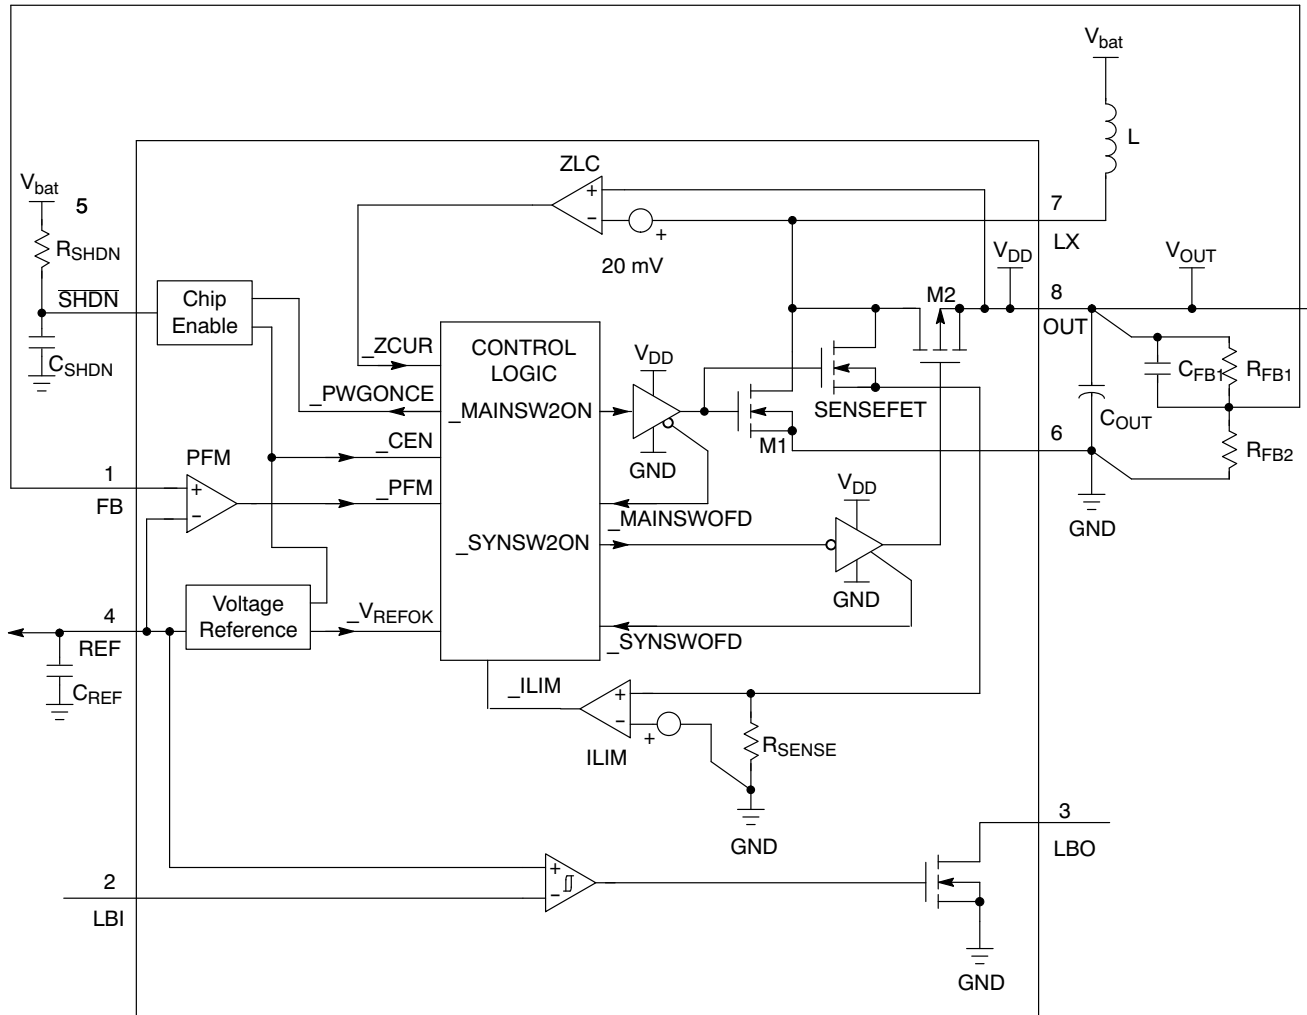

Figure 2. Simplified Functional Diagram
From the simplified Functional Diagram (Figure 2), the output voltage is divided down and fed back to pin 1 (FB). This voltage goes to the non-inverting input of the PFM comparator whereas the comparator's inverting input is connected to REF. A switching cycle is initiated by the falling edge of the comparator, at the moment, the main switch (M1) is turned ON. After the maximum ON-time (typical 1.4 μs) elapses or the current limit is reached, M1 is turned OFF, and the synchronous switch (M2) is turned ON. The M1 OFF time is not less than the minimum OFF-time (typical 0.31 μs), this is to ensure energy transfer from the inductor to the output capacitor. If the regulator is operating at continuous conduction mode (CCM), M2 is turned OFF just before M1 is supposed to be ON again. If the regulator is operating at discontinuous conduction mode (DCM), which means the coil current will decrease to zero before the next cycle, M1 is turned OFF as the coil current is almost reaching zero. The comparator (ZLC) with fixed offset is dedicated to sense the voltage drop across M2 as it is conducting, when the voltage drop is below the offset, the ZLC comparator output goes HIGH, and M2 is turned OFF. Negative feedback of closed loop operation regulates voltage at pin 1 (FB) equal to the internal voltage reference (1.190 V).
From Figure 2, SENSEFET is applied to sample the coil current as M1 is ON. With that sample current flowing through a sense resistor, sense-voltage is developed. Threshold detector (ILIM) detects whether the sense-voltage is higher than preset level. If it happens, detector output signifies the CONTROL LOGIC to switch OFF M1, and M1 can only be switched ON as next cycle starts after the minimum OFF-time (typical 0.31 μs). With properly sizing of SENSEFET and sense resistor, the peak coil current limit is set at 1.0 A typically.
The IC is shutdown when the voltage at pin 5 ($\overline{\text{SHDN}}$) is pulled lower than 0.3 V. During shutdown, M1 and M2 are both switched OFF, however, the body diode of M2 allows current flow from battery to the output, the IC internal circuit will consume less than 0.05 μA current typically. If the pin 5 voltage is pull higher than 0.6 V, for example, by a resistor connected to VIN, the IC is enabled, and the internal circuit will only consume 9.0 μA current typically from the OUT pin. Refer to Figure 2, the product of R_{SHDN} and C_{SHDN} must be larger than (500 k \cdot 56 nF, i.e. 28 msec). This is to provide reset pulse for startup as battery is plugged in.